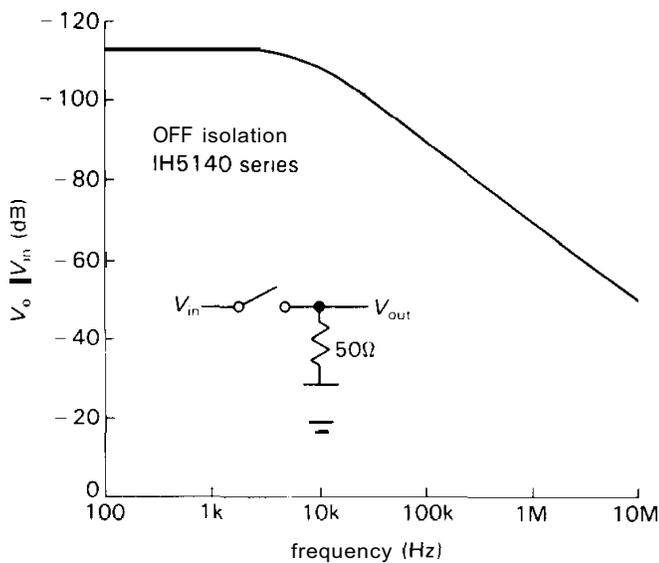

Figure 3.45
**$C_{DS}$ :** *Capacitance from input to output.* Capacitance from input to output causes signal coupling in an OFF switch, rising at high frequencies. Figure 3.45 shows the effect for the IH5140 series. Note the use